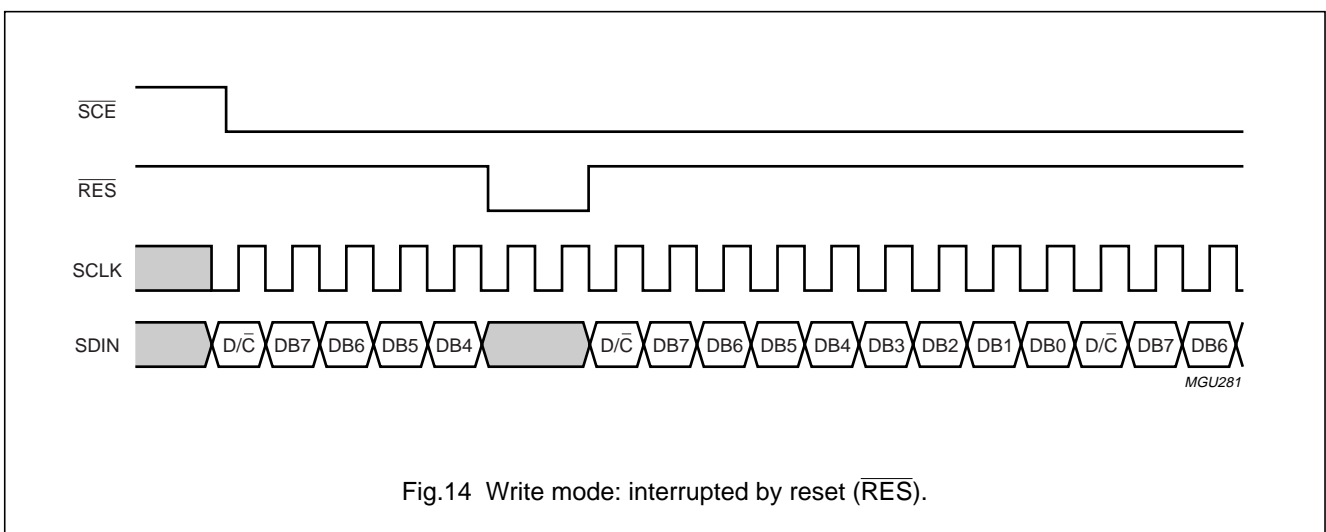

Fig.14 Write mode: interrupted by reset (\overline{RES}).
- A reset pulse with $\overline{\text{RES}}$ interrupts the transmission. The data being written into the RAM may be corrupted. The registers are cleared. If $\overline{\text{SCE}}$ is LOW after the rising edge of $\overline{\text{RES}}$, the serial interface is ready to receive the D/\overline{C} bit of a command or data byte (see Fig.14).